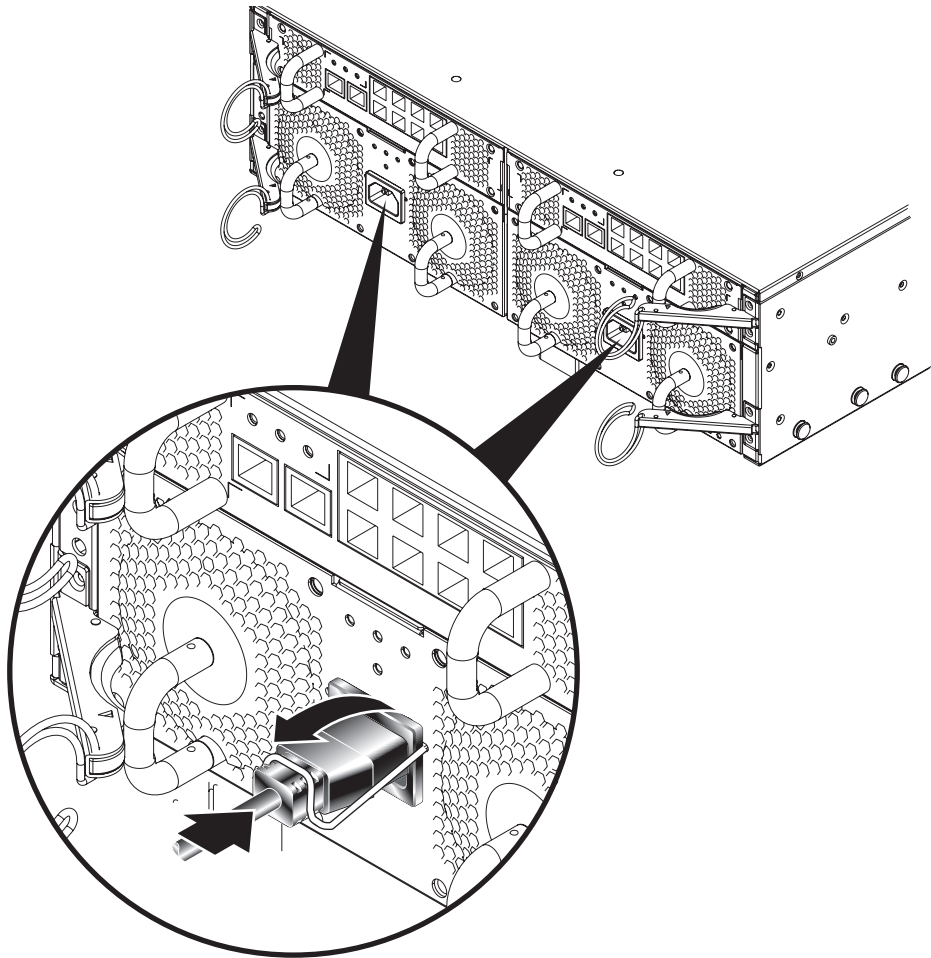

FIGURE 5-3 Clipping on the Power Cord Retention Clip
3. Use the power cord retention clip to hold the power cord in position (FIGURE 5-3).